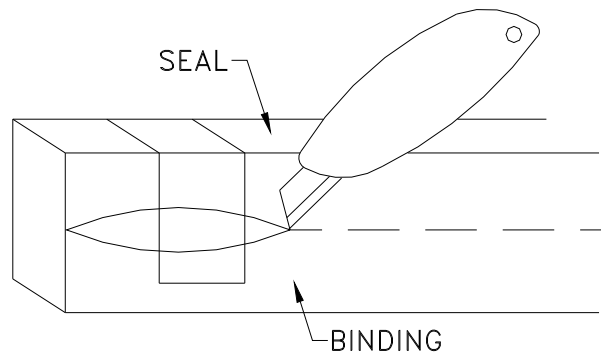

Figure 7
STEP 8. When working with stick-packaged material, remove the binding holding the stick(s) compressed (see Figure 7). Cut the binding along the hardboard edges. Do not cut along the face of the seal. Remove the release paper from the sides of the seal, exposing the pressure sensitive adhesive in preparation for installation (see Figure 8). Apply **Epoxy Bonding Adhesive - EBA32** to the lower half of the seal side walls